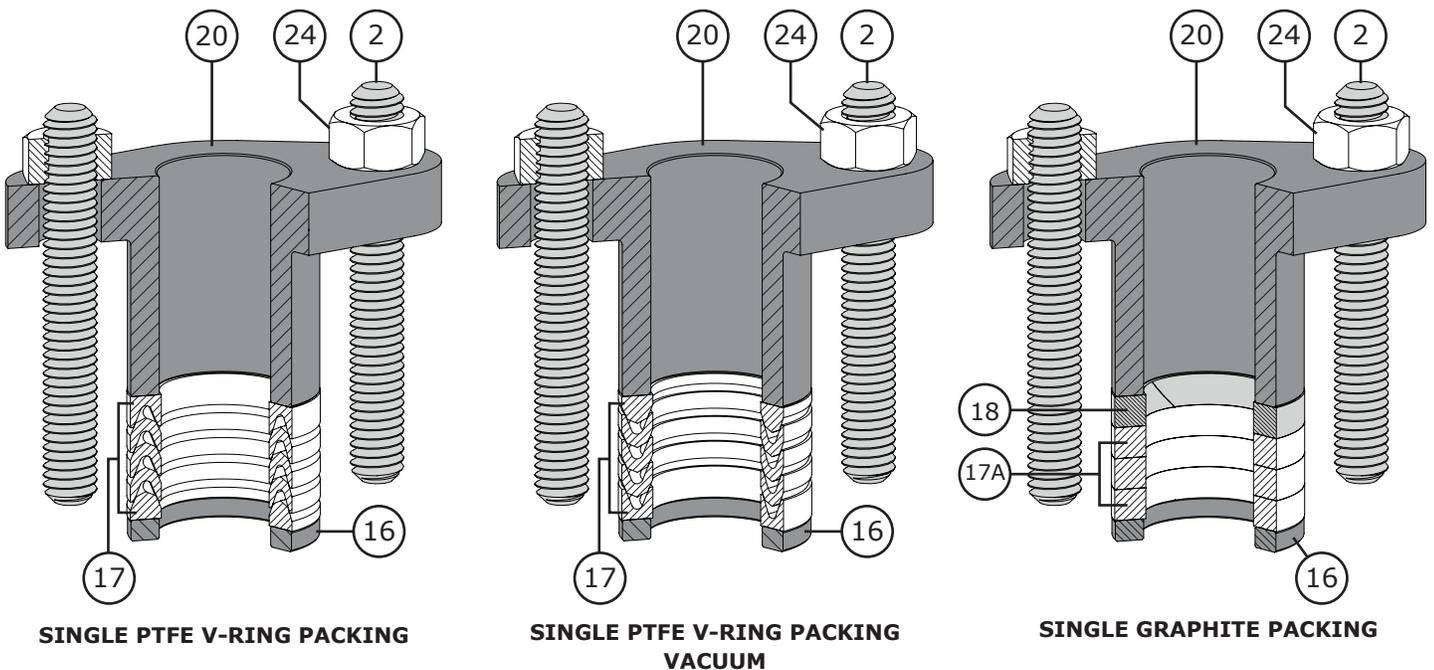

Figure 59 Standard Packing Configuration Diagrams
- 2 Apply Molykote® 111 (Key B) to the PTFE packing rings (Key 17). Install the packing rings one ring at a time (as described in the NOTE above) in the proper order and orientation as shown in Figure 59. **WARNING:** For oxygen service do not apply Molykote® 111, Molykote® 111 in oxygen service applications can cause an explosion.
- 2 Install the packing rings one ring at a time (as described in the NOTE on Page 35) in the proper order and orientation as shown in Figure 59.